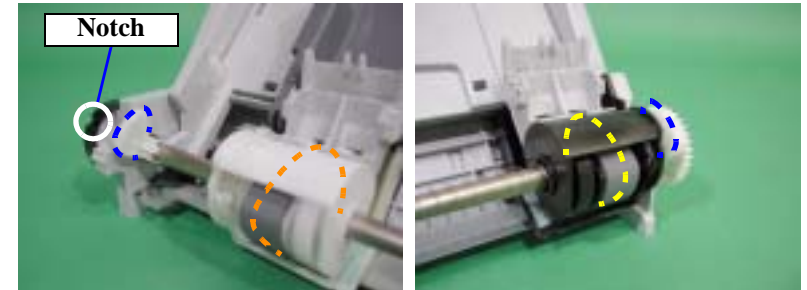

Figure 4-40. Phase Matching
- When reinstalling the ASF Sensor Wheel, Left and Right Hopper Cams and LD Roller, refer to Figure 4-40 and face the home position (notch) of the ASF Sensor Wheel, the cam diameters of the Left and Right Hopper Cams and the plane surface of the LD Roller face the same direction.